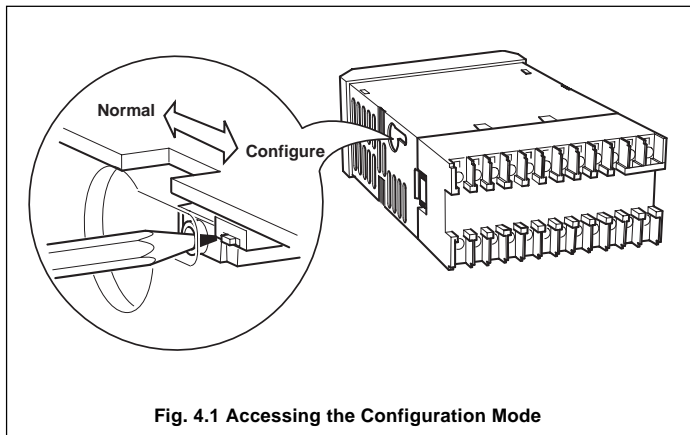

Fig. 4.1 Accessing the Configuration Mode
4.2 Accessing the Configuration Mode – Fig. 4.1